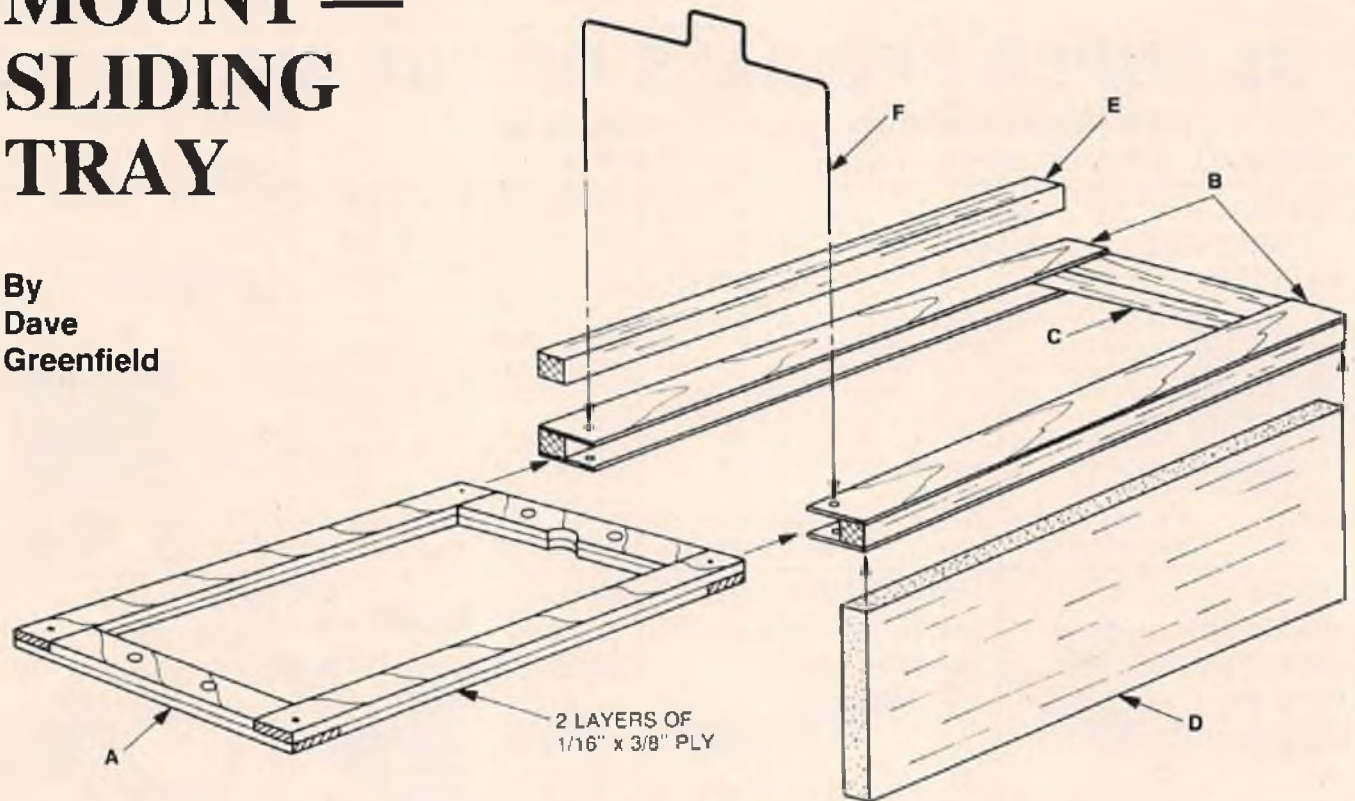

FIGURE 2
(see Figure 2)
(1) Construct servo tray as per Figure 4, lapped, pinned, and glued at corners. 1/16" ply should be laminated to provide net thickness of 1/8" (see instructions for tray (A) in Figure 2). Check fit of servo